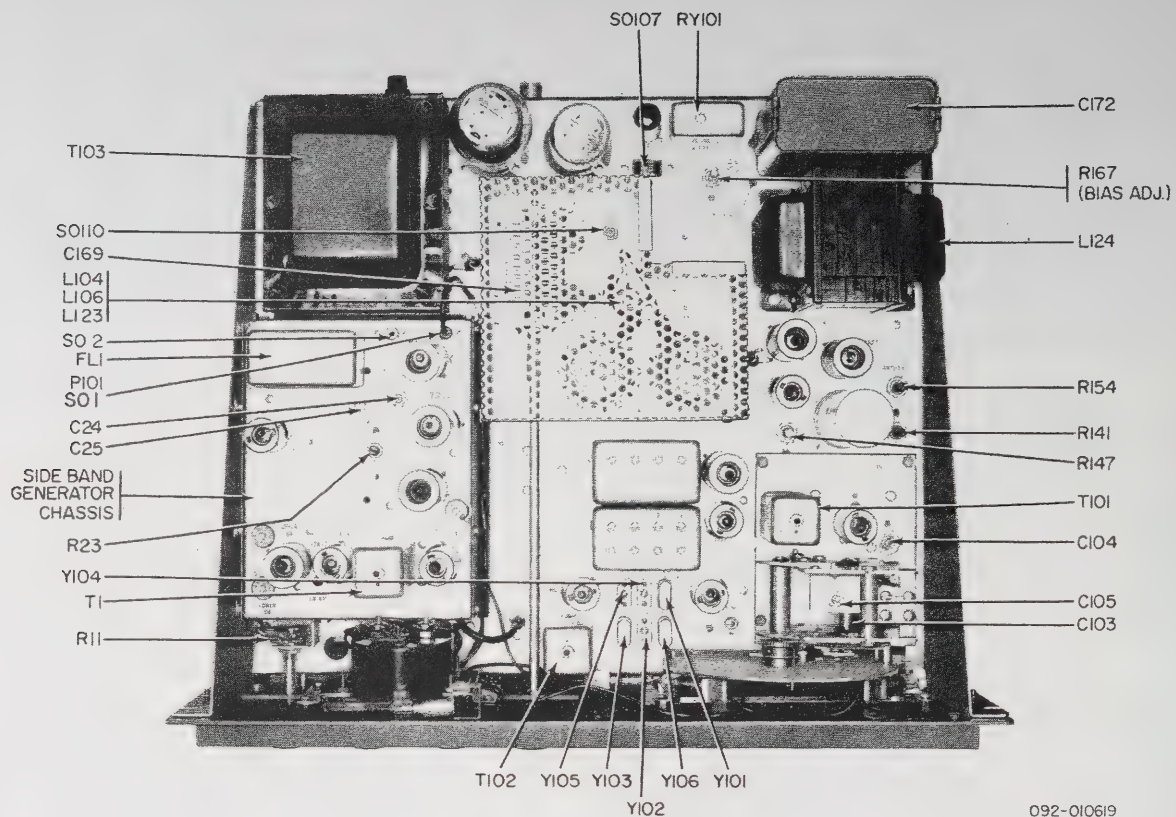

Figure 6. Top Chassis View
complished by switching between MOX (to transmit) and STANDBY (to receive). Note that manual operation will not be possible unless the CW DELAY control (knurled sleeve shaft of R147) is turned fully clockwise. See Figure 6.
The VOX and DELAY controls are located on the top of the HT-32B Transmitter/Exciter chassis, as illustrated in Figure 6. Both controls are utilized in conjunction with VOX operation and are adjusted to provide control of the transmitter and station receiver.
2. The VOX DELAY control (center shaft) is in the grid circuit of the relay tube and determines the time lag in de-energizing the VOX RELAY when audio excitation is removed from the audio amplifier and VOX amplifier stages. This control should be advanced while speaking into the microphone and set at a position in which the time lapse between words will not de-energize the VOX RELAY. This adjustment will eliminate the constant keying of the HT-32B Transmitter/Exciter at the beginning of each word. There is a slight interaction between the VOX sensitivity and DELAY circuits, consequently, a slight re-adjustment of controls may be necessary to obtain desired results. The VOX DELAY adjustment (R147B) is the center shaft with the screwdriver slot. See Figure 6. For adjustment instructions concerning the sleeve shaft (CW DELAY), see paragraph 4-4, step 9.
This control is located on top of the HT-32B Transmitter/Exciter chassis (see figure 6) and is used in conjunction with VOX operation. When the station receiver and speaker are connected for VOX operation (paragraph 2-5-2-4), the speaker ANTI-TRIP control is advanced to a setting where the audio signal picked up by the microphone from
The control is located on top and to the rear of the chassis and slightly to the right of center. (See Figure 6).